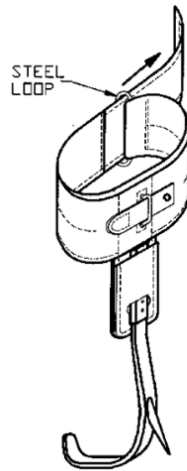
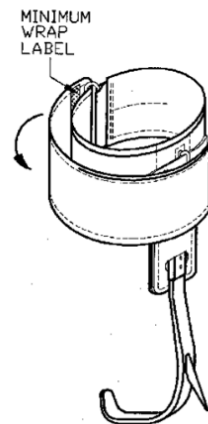

Fig. 4
Fig. 5
4. Continue to pull the end of the pad through the steel loop until the pad is snug to the leg but never so tight as to restrict circulation. Always ensure that the **MINIMUM WRAP LABEL** has been pulled completely through the steel loop (Fig. 4 and Fig. 5). Wrap the free end around the pad, adhering the hook fastener to the loop fastener on the body of the pad (Fig. 5). This ensures a proper wrap. Failure to do so may cause release, resulting in serious injury or death.